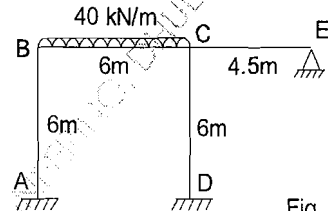

Fig. 8
8. Using stiffness matrix method, analyse the frame shown in fig. 8. Take EI constant throughout. **20**